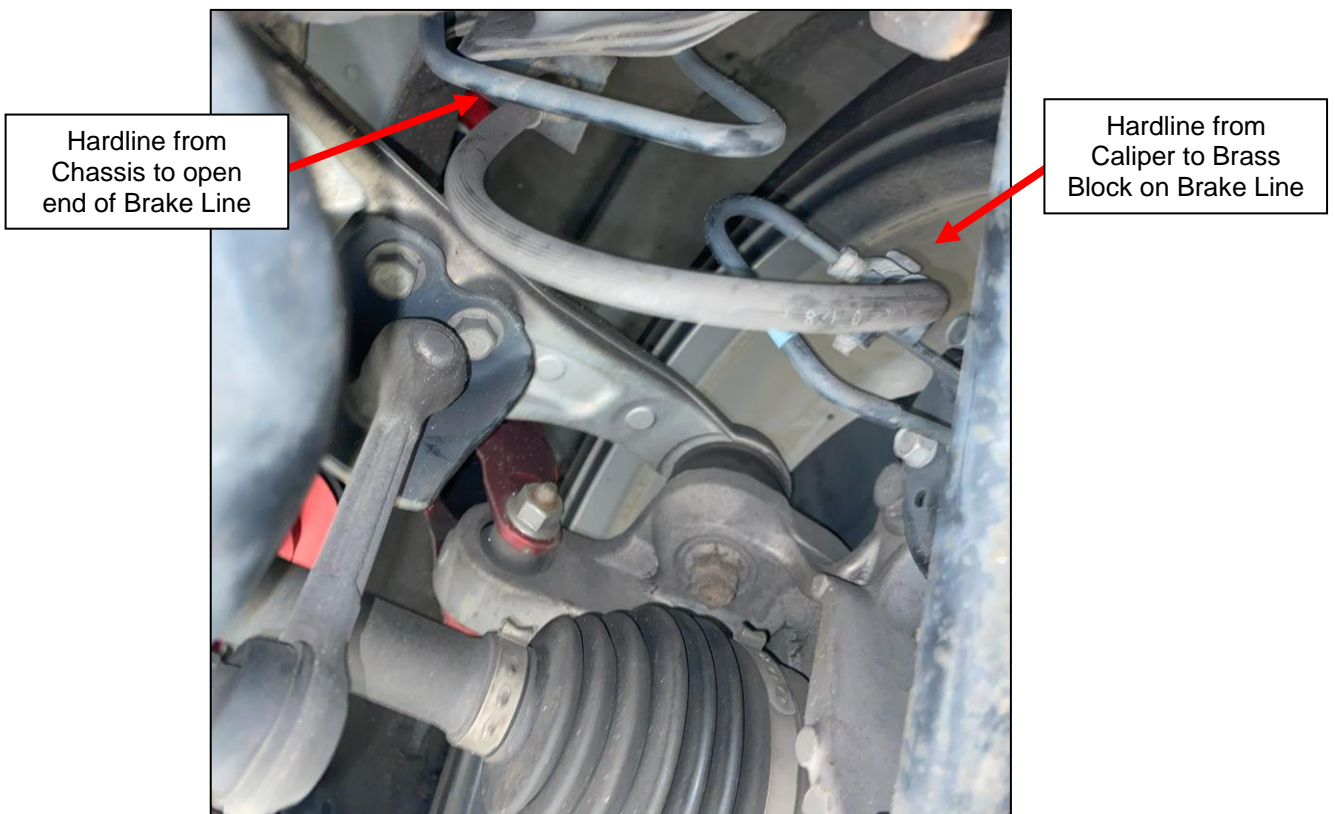

Figure 2
6. Locate (1) one of the Longer Female End Brake Lines. The Shorter Brake Lines **WILL NOT** fit in the rear of the vehicle. Install the Brake Line into the rear of the vehicle. The Hardline coming from the Caliper will mount into the Brass Block of the new Brake Line. *Figure 2.*